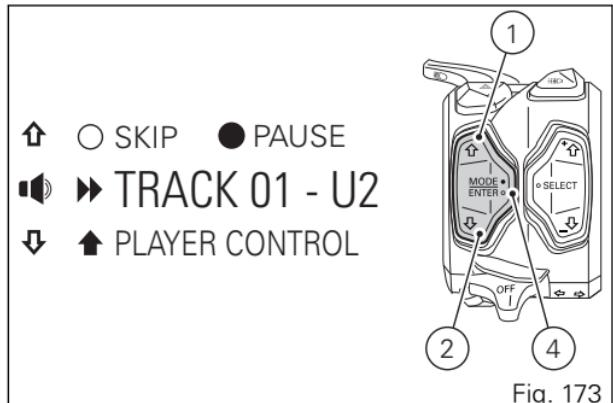

Fig. 173
When the Player is turned on, within Player control page (Fig. 173), button (1), button (2) and button (4) can only be used to control the Player:
- Volume up: Press button (1) once.
- Volume down: Press button (2) once.
- Pause / Play: Press button (4) for 2 seconds.
- Skip / Next track: Press button (4) once. Each press corresponds to a track skipped.
Press button (2) for 2 seconds to quit Player menu while maintaining the Player ON. The instrument panel will display "PLAYER ON" in the Function Menu but will deactivate the Player menu (Fig. 173).